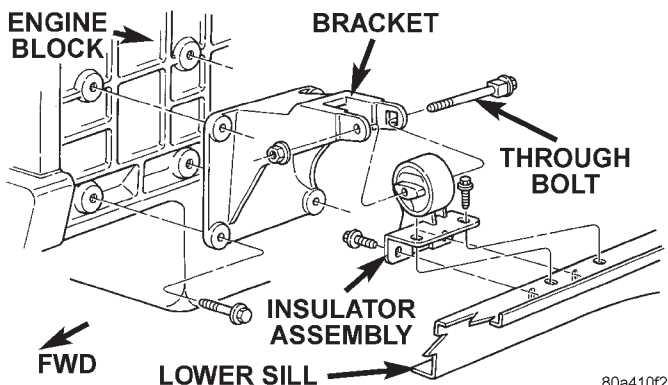

Fig. 7 Front Mount—Left Side
- (1) Disconnect negative cable from battery.
- (2) Raise the vehicle.
- (3) Support the engine.
- (4) Remove through bolt nut. DO NOT remove the through bolt (Fig. 7).
- (5) Remove insulator sill plate bolts.
- (6) Remove engine mount bracket bolts.
- (7) Raise engine up.
- (8) Remove the through bolt.
- (9) Remove insulator.
- (10) Remove engine bracket.